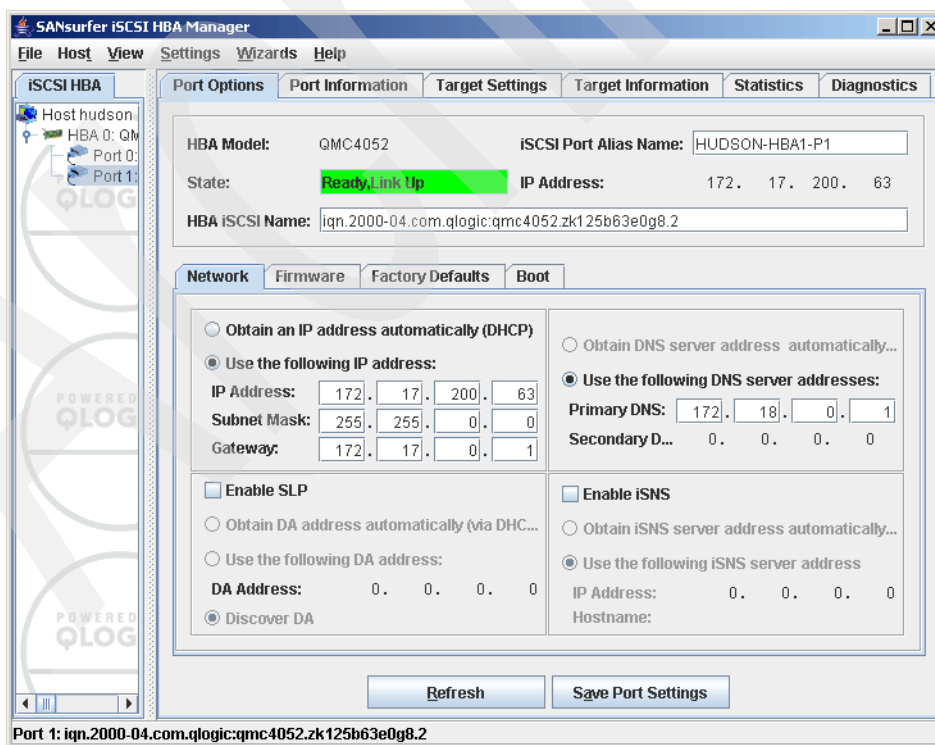

Figure 21-42 SANsurfer - Port Options - Fixed IP address settings
8. Enter the IP address, subnet mask, default gateway, and DNS server, and then click **Save Port Settings**, as shown in Figure 21-42.